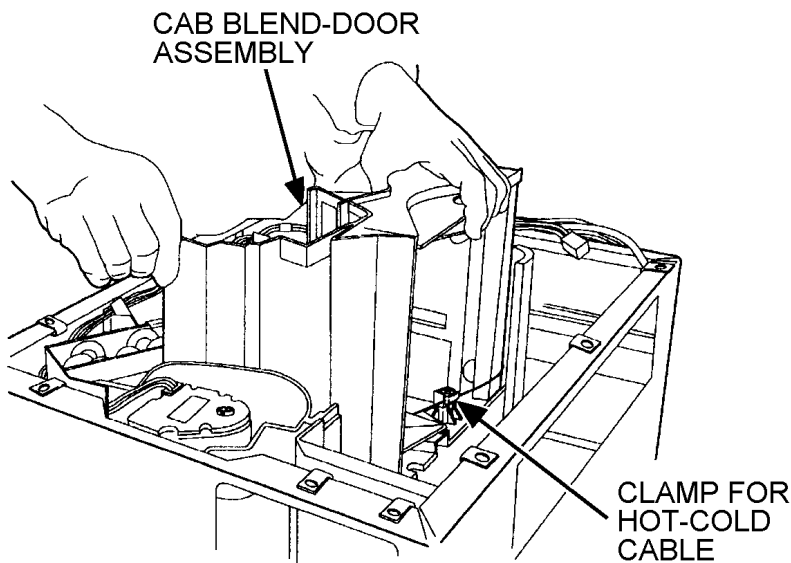

Figure 31 Cab Blend-Door Assembly
6. Remove the five nuts that secure the cab blend-door assembly to the bottom of the Blend-Air unit and lift the cab blend-door assembly straight up and out of the Blend-Air unit (Figure 31).
1. Install the cab blend-door assembly into the Blend-Air unit (Figure 31).